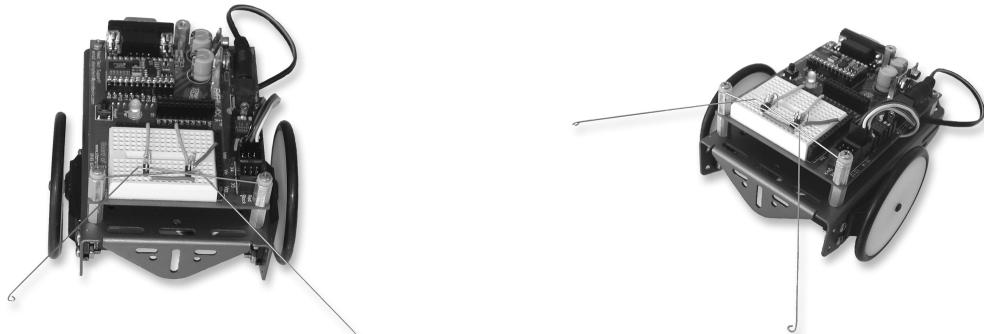
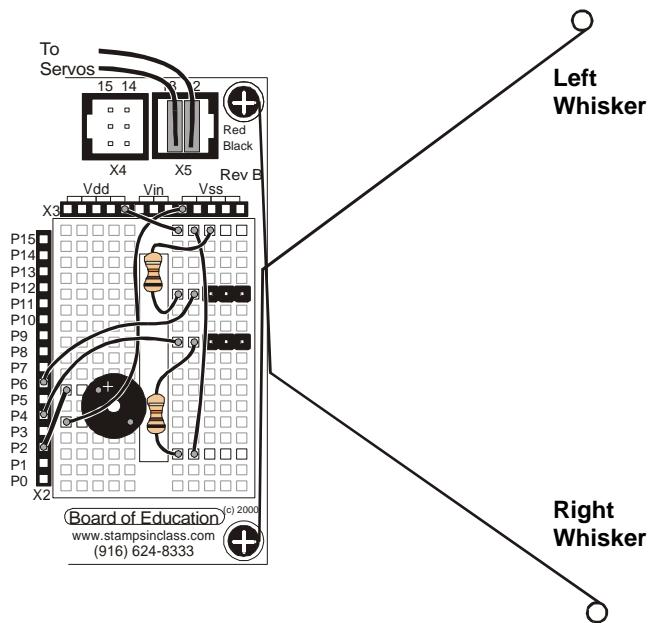

Figure 3.2: Pictures of Boe-Bot with Whiskers
Figure 3.3: Whiskers wiring diagram.
Your #1 point Phillips screwdriver and quarter-inch combination wrench will come in handy here. Before getting started on whisker construction, take a close look at Figure 3.2. Use these pictures as a guide while constructing the mechanical part of the Whiskers kit. Figure 3.3 shows the whiskers wiring diagram. Follow it for making the necessary electrical connections.
- Screw each screw into a standoff sandwiching the loop of the whisker between the screw head and the nylon washer. Make sure the whiskers are oriented as shown in Figure 3.2 and 3.3.
- Check Figure 3.3 so you know which whisker is the “left whisker” and which whisker is the “right whisker”.